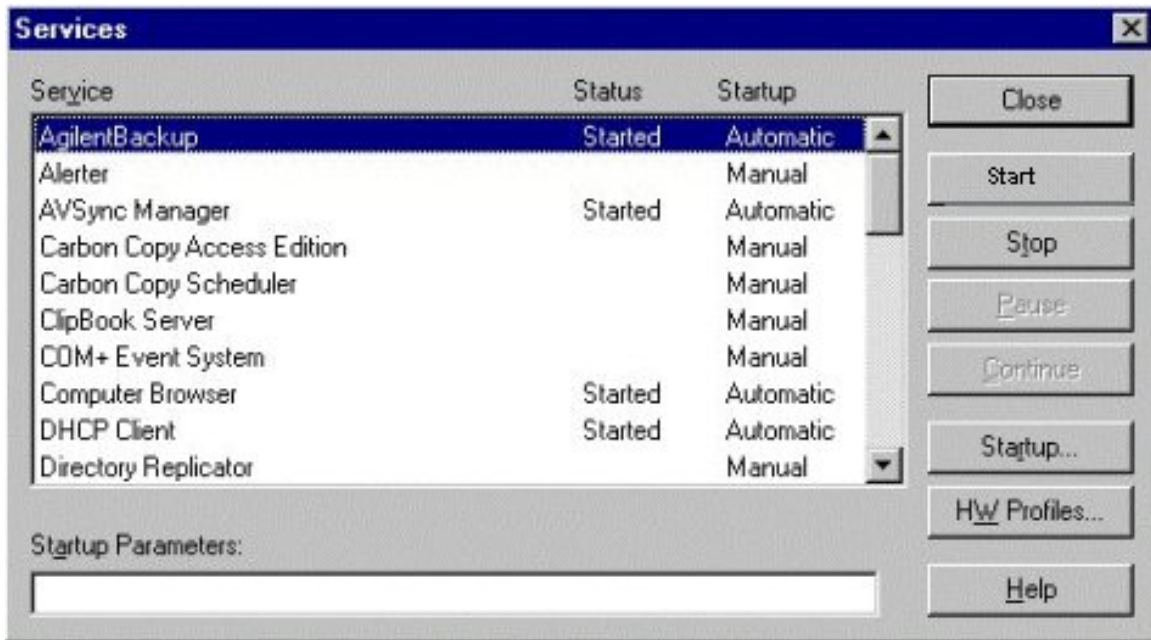

Figure 1-5 Services Window
2. To check that you have correctly installed the **AgilentBackup** service open **Start -> Settings -> Control Panel -> Services**. If you have installed the **AgilentBackup** service, you can see it in the **Services** window as shown in Figure 1-5:
3. The **AgilentBackup** service automatically starts running every time the system is rebooted. However you do not need to reboot every time you want to run the **AgilentBackup** service, you just need to click the **Start** button as shown in Figure 1-5.